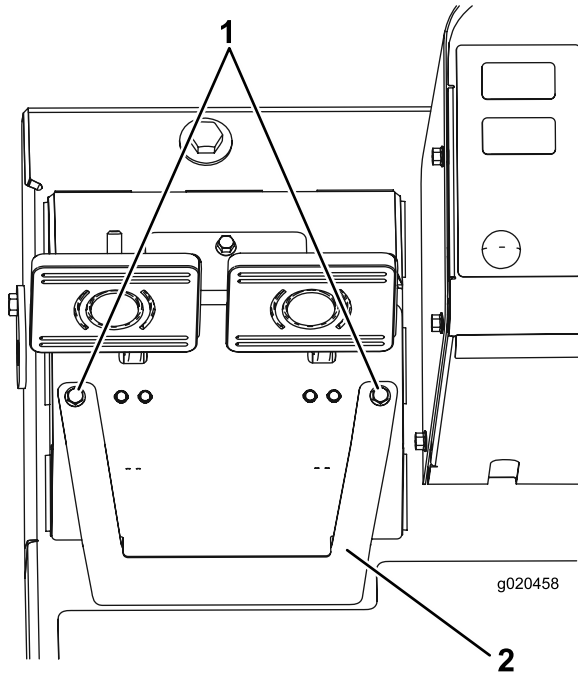

Figure 96
- A. Loosen the 2 mounting screws and remove the brake-adjustment cover (Figure 96).